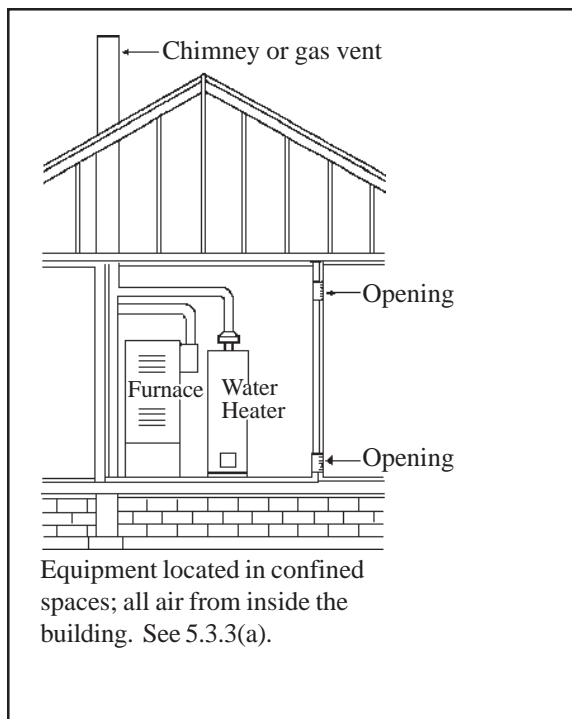
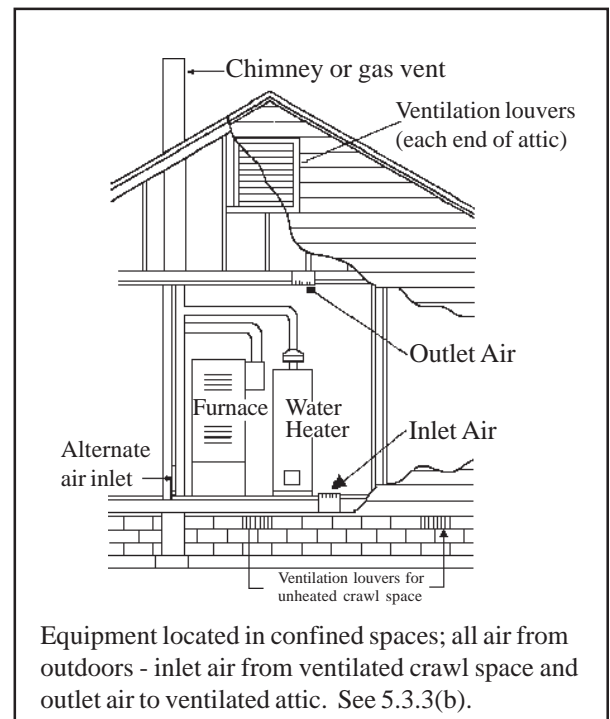

FIGURE 9
FIGURE 10
**NOTE:** A third construction class is one with unusually tight construction, defined as, construction where: (A) Walls and ceilings exposed to the outside atmosphere have a continuous water vapor retarder with a rating of 1 per (6x10-11 Kg per pa-sec-m2) or less with openings gasketed or sealed, and, (B) Weatherstripping has been added on openable windows and doors, and, (C) Caulking or sealants are applied to areas such as joints around window and door frames, between sole plates and floors, between wall ceiling joints, between wall panels, at penetration for plumbing, electrical, and gas lines, and at other openings.
**“WARNING:** If the area in which the heater may be operated does not meet the required volume for indoor combustion air, combustion and ventilation air shall be provided by one of the methods described in the *National Fuel Gas Code*, ANSI Z223.1/NFPA 54 Air for Combustion and Ventilation, or applicable local codes.” Examples would be to provide two permanent openings either to an adjoining room, or to the outside. See the *National Fuel Gas Code* for details. See Figure 9 & Figure 10 below.